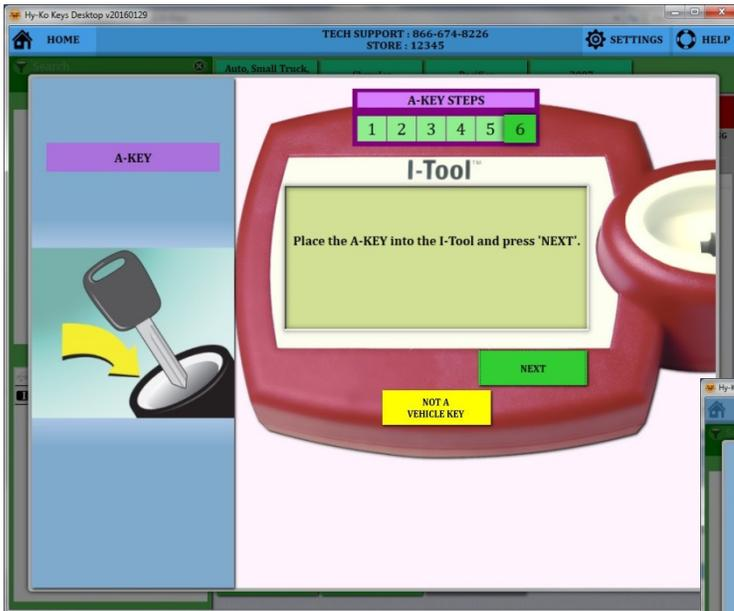

fig. 95
- Remove the customer's key and re-insert the new A-Key into the I-Tool and click the 'NEXT' button on the image of the I-Tool on the software (see fig. 95).